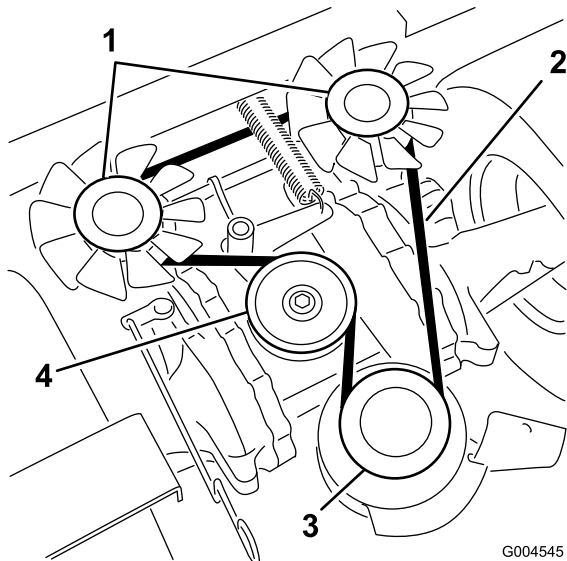

Figure 47
3. Remove the bolt from the clutch stop and unplug the clutch electrical wire (Figure 47).
4. Pull on the idler pulley to relieve the belt tension on the idler pulley (Figure 47).
5. Remove the pump drive belt from the engine and the hydraulic pump pulleys (Figure 47).
6. Install the new belt around the engine and the hydraulic pump pulleys (Figure 47).
8. Release the pressure on the spring loaded idler (Figure 47).